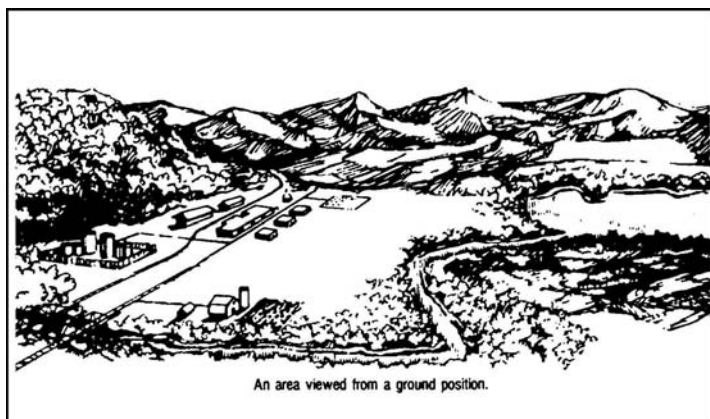

Figure 071-329-1012-1. Features used to orient map
1. Match terrain features appearing on your map with physical features on the ground (figure 071-329-1012-1).